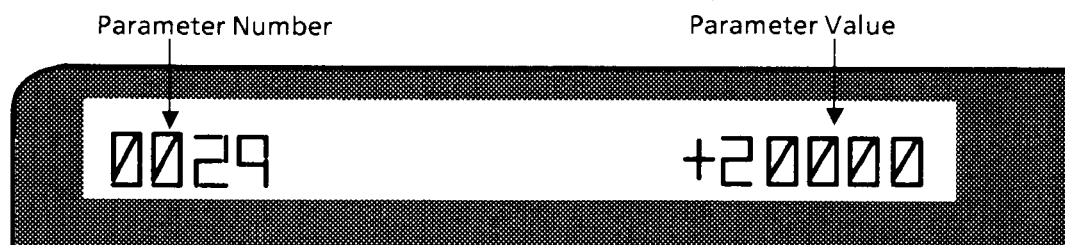

Figure 3-46. Example of Parameter Selection
- 3-2.6.5 Displaying and Changing Parameters** - The Control Panel can be used to observe and change parameter values as soon as power has been applied to the unit. When the PARAM key is pressed for the first time after power up, a default parameter will be displayed. If a parameter beyond the bounds of the parameter table is called for, the display will automatically return to the default parameter. To illustrate use of the Control Panel to change parameter values, FREQREF (parm 29) is used as an example. It can be selected by pressing the PARAM key and the appropriate +, +/- or - keys. In this example, parameter 29 is set at + 20000 speed units (Figure 3-46).